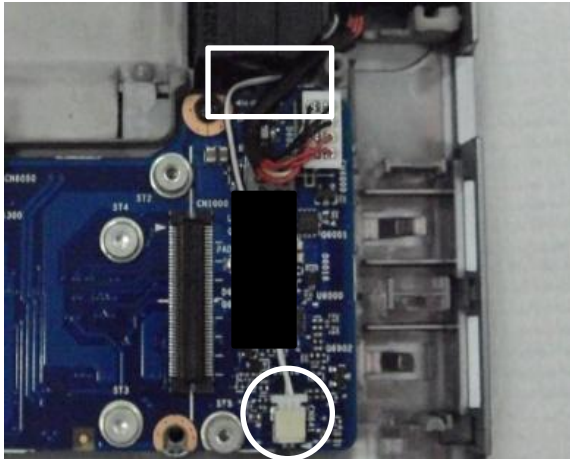

Fig.2
4. Disconnect speaker cable – L. (Fig.2)